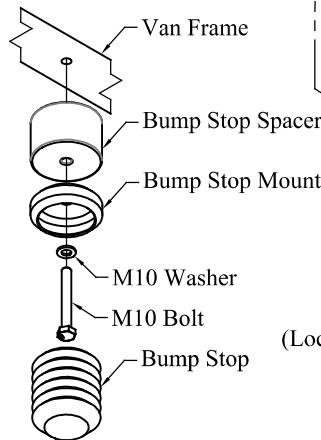

Figure 4: Bump Stop Spacer Install Process.
3. **Reinstall** bump stop mount with bump stop spacer between bump stop mount and frame (Figure 4).